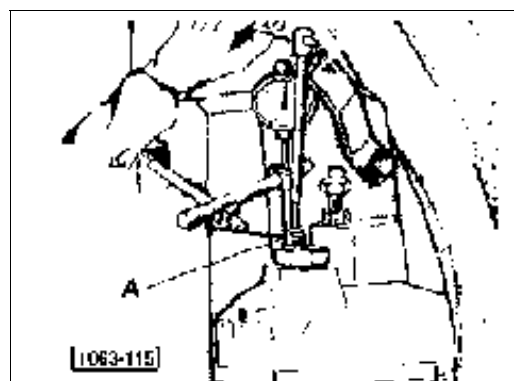

Fig. 16 - Tractor-installed engine governor unit.
- Using an Allen wrench (fig. 16) loosen the fuel maximum delivery adjusting screw (turn it anticlockwise) until the engine is about to stop (or keeps on running through the automatic operation of the extra fuel supply unit stabilizing at 300 to 500 r.p.m.).
With the engine stopped, place the contact point of a dial gauge on the head of screw **A** (fig. 16), zero the gauge, then screw in the screw the number of turns indicated in the table, to obtain the gauge reading indicated below: